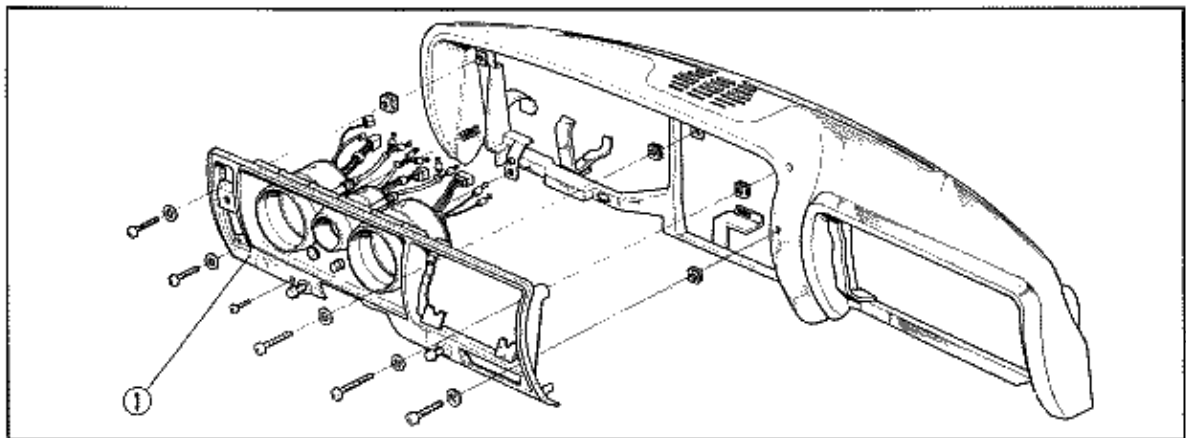

Fig. 15-7 ① Meter Panel
5. Disconnect the wire harness from the lighting switch, brake trouble warning light, turn signal pilot lamp, beam pilot lamp, fuel meter, speedometer and tachometer (Fig. 15-7).